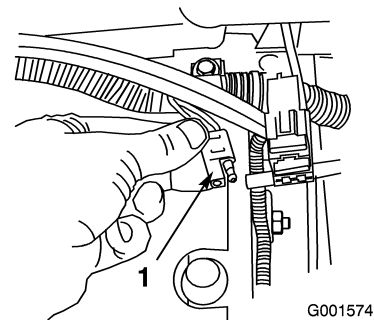

Figure 4
1. Locate the open connector on the main wire harness (Figure 4).